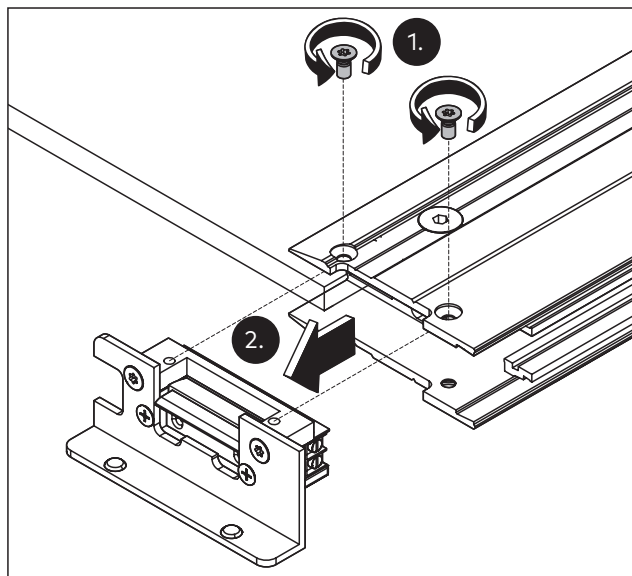

Fig. 46 Pulling the electric strike release out of the lock module
1. Unscrew the screws and pull the electric strike release out of the lock module (Fig. 46).